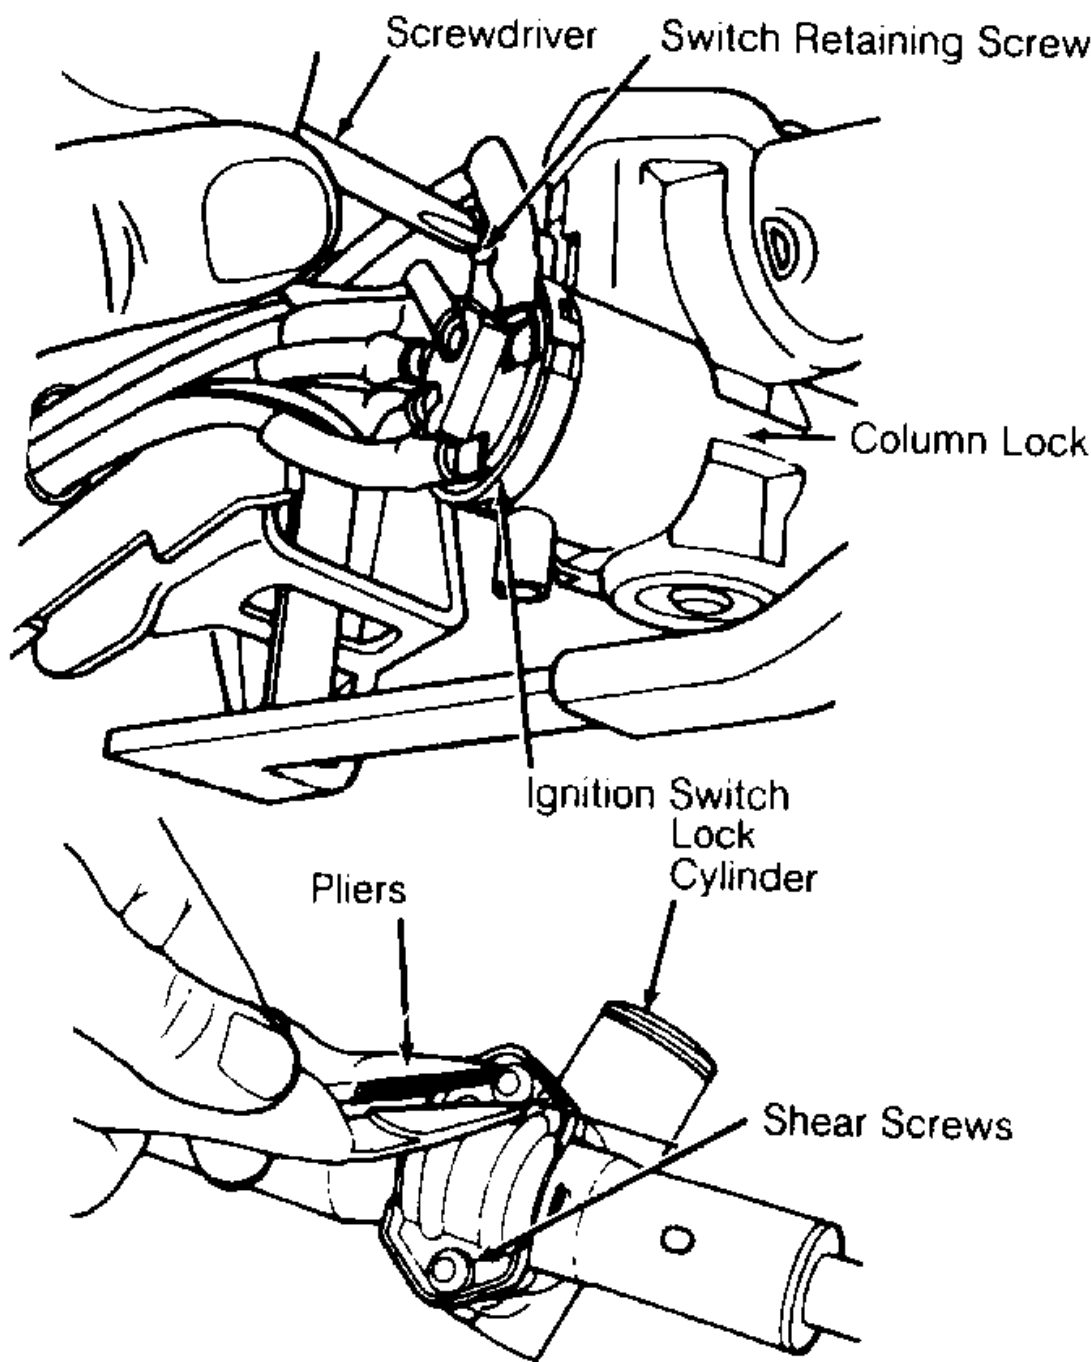

Fig. 2: Ignition Switch & Lock Mechanism
3. Remove column lock shield. Disconnect switch harness connector. Remove single retaining screw. Remove ignition switch. See Fig. 2 . Reverse removal procedures to complete installation.
2. Remove steering column attaching nuts and lower the steering column support bracket. Remove single retaining screw from top side of ignition switch. Remove ignition switch wiring harness and ignition switch. See Fig. 2 .
and disconnect cable from lock housing. Using slim-nose locking pliers, grip and remove round headed shear screws securing column lock housing and cap to column jacket. See Fig. 2 .